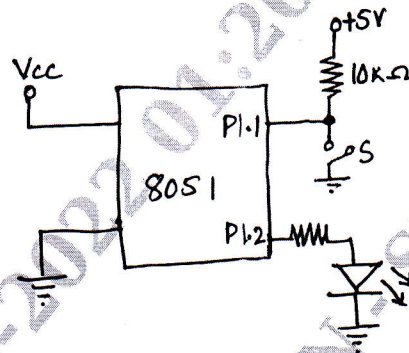

Fig.Q6(a)
- 6 a. Write an ALP to read switch given in Fig.Q6(a). If switch is closed turn ON the LED else turn OFF the LED.